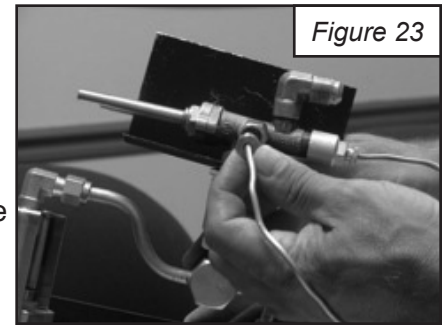

Figure 23
7. Attach pilot gas supply line (Part # 6) to the bottom of the gas control valve. Care should be taken not to kink the tubing which would restrict gas flow to the Pilot Burner. (See Figure 23)